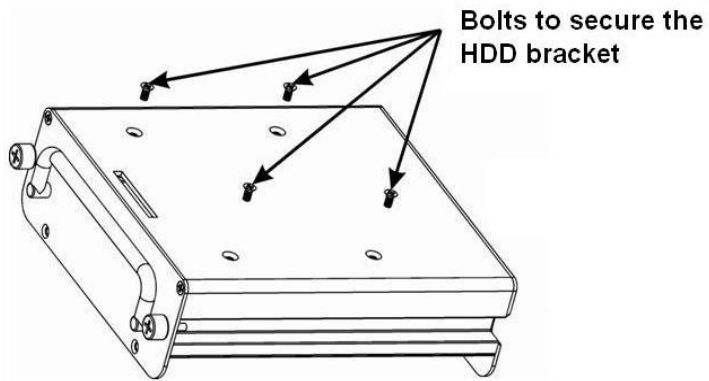

Figure 3-3
3) Now you can see an interface shown as in Figure 3-3 after you took out the bracket. Remove the bolts from the HDD bracket and then take out the HDD PCB board.